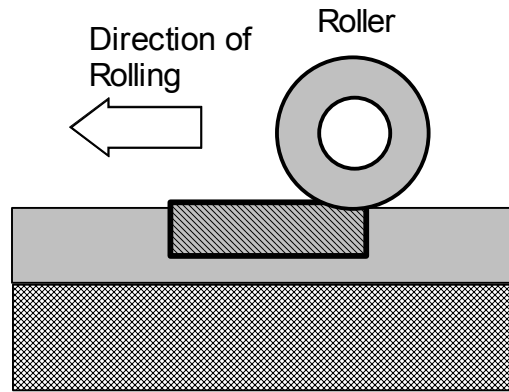

Figure 10: Patch Material Placed and Compaction in Progress (4)
- Compact the patch material with a hand device or a small vibratory roller. It is preferable to use compaction equipment whose surface is smaller than the size of the patch. It is very difficult to achieve satisfactory compaction with equipment that bridges the repair area. Figure 10 illustrates the compaction of the patch material.